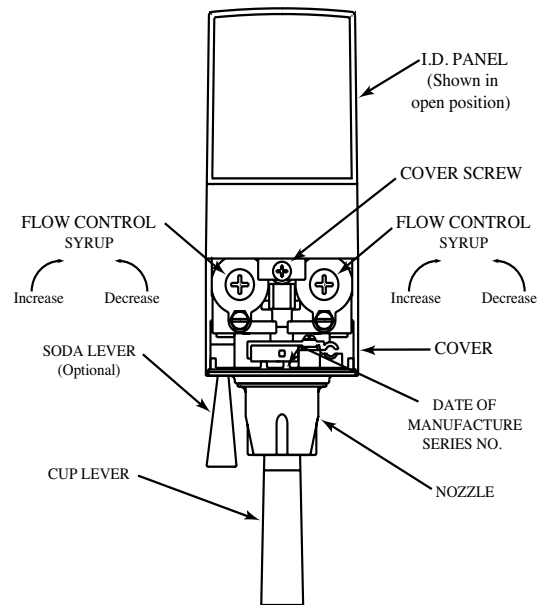

Figure 1
- B. The refrigeration unit should have been running for at least one (1) hour before you attempt to brix the valves. The drink temperature should be no higher than 40°F (4.4°C) when the brix is set. This is best done after the unit has made an ice bank.
- C. Slide up ID panel until flow controls are exposed (see Figure 1)
- H. Hold a Lancer brix cup under the syrup separator and dispense water and syrup into cup for four (4) seconds. Divide number of ounces (ml) of water in cup by four (4) to determine water flow rate per second
- I. To obtain the proper flow, use a screwdriver to adjust water flow control (see Figure 1).
- B. To obtain the proper ratio, use screw-driver to adjust syrup flow control (see Figure 1).